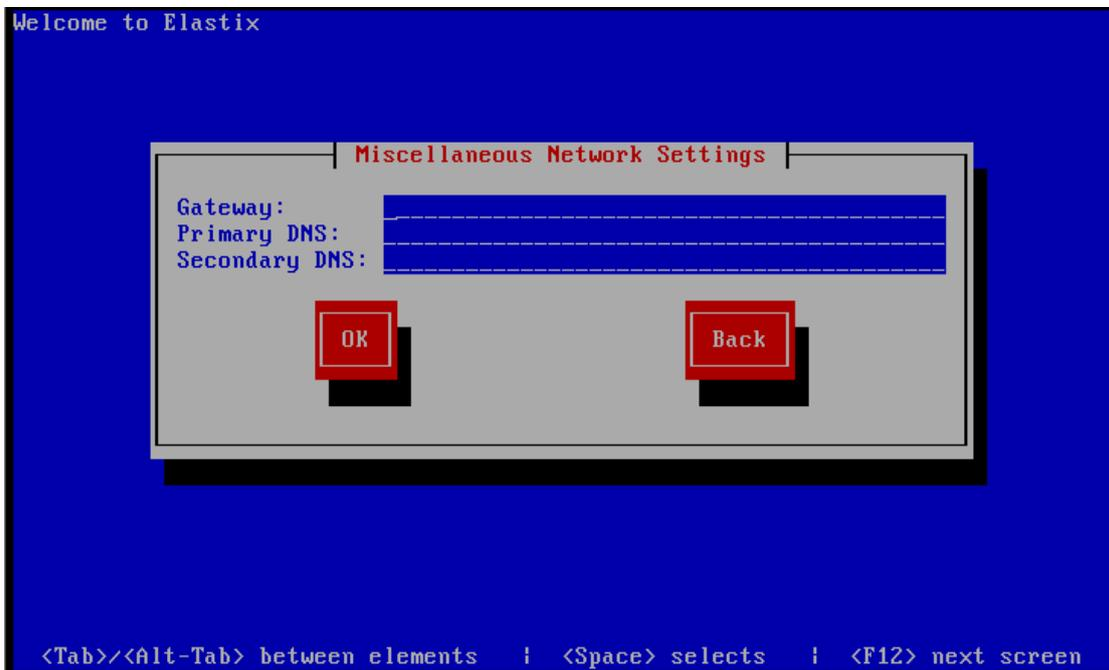

Figure 9
9. Next, enter the gateway address, the primary DNS address and the secondary DNS address, and then click 'OK' (Figure 9).